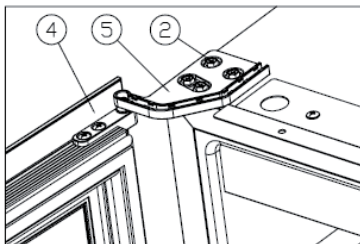

Figure 6
7. Turn the door **(4)** 180° and insert the right lower hinge **(5)**. Screw tight with the M5 x 16 screws **(2)** (see figure 6).